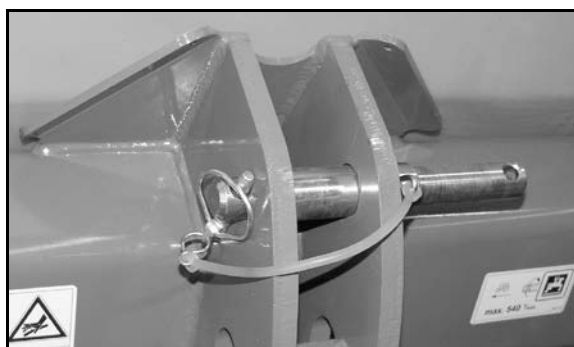

Fig. 28
- back (Fig. 28/1) into the park position.
- forwards (Fig. 28/2) into the transport position.